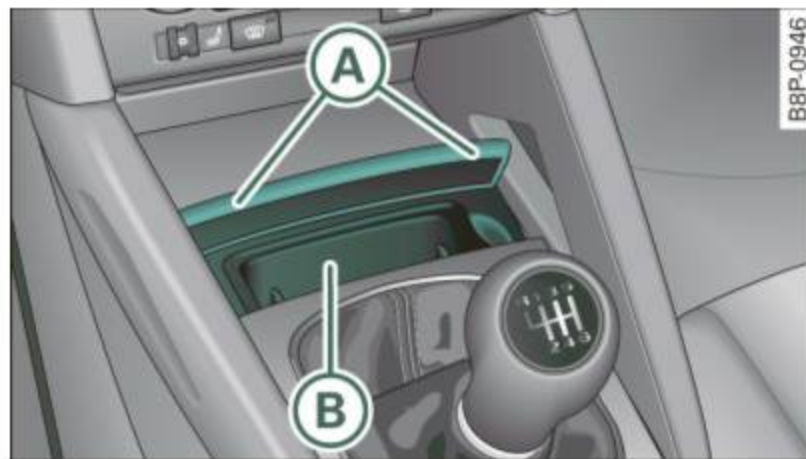

Fig. 116 Center console: front ashtray
- Tap the edge of the ashtray (A) ⇒ fig. 116 ⇒ ⚠.
- Hold the sides of the ashtray (B) ⇒ fig. 116 insert and lift out.